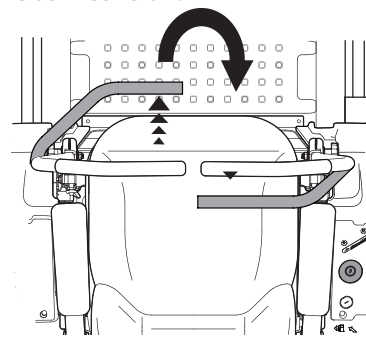

Figure 3-11
2. To turn clockwise, move the left control lever forward while simultaneously moving the right control lever rearward. See Figure 3-11.